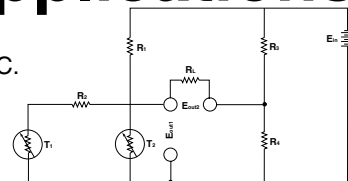

Figure 1
*** See Figure 1, example 1 on typical linear component application on next page.
3. Using the Linear network as two legs of a Wheatstone bridge add the two additional legs, R_3 and R_4 so that $E_{out2} = 0$ when $T = 30^\circ\text{C}$. (See Figure 1.) R_3 and R_4 are calculated from five known conditions.